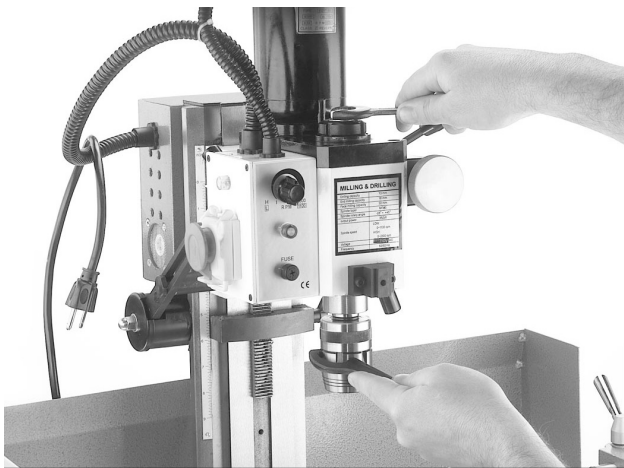

Figure 12. Installing optional collet chuck.
10. Hold the collet chuck in place with the spanner wrench and tighten the hex nut on the draw bolt just enough to snug in place. See **Figure 12**. DO NOT tighten the hex nut too tight or the collet chuck will be hard to remove from the spindle taper.